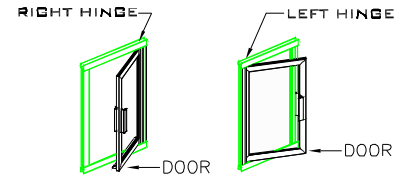
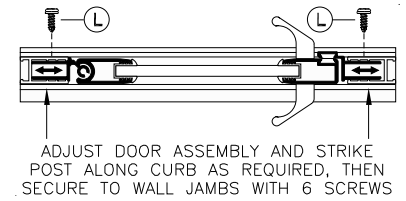
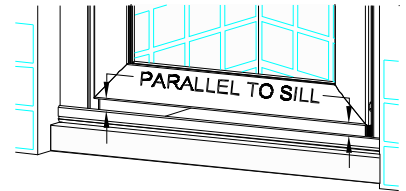

figure 3
figure 4
figure 5
5. Decide from which side your Door Assembly (D) is to hinge (left or right, your choice) see figure 3. Insert the Door Assembly's Hinge Post (c1) into the Wall Jamb from which it is to hinge. Now, insert the Strike Post (D) into the other Wall Jamb (see exploded view - sheet 1). Magnet on door should face toward interior of enclosure, while magnet on Strike Post should face toward the exterior.
6. Attach the Door Handles (E) to the Door Assembly using two(2) Door Handle Screws (F) as shown in exploded view - sheet 1.
7. Adjust Door Assembly and Strike Post along curb as required (see figure 4). Bottom of Door Assembly must always remain parallel to Sill in order for door to operate properly (see figure 5). When satisfied with door operation, secure Hinge Post (c1) and Strike Post (D) to the Wall Jamb (B) using six 638PHPT Screws (L), (see figure 4) and exploded view - sheet 1.